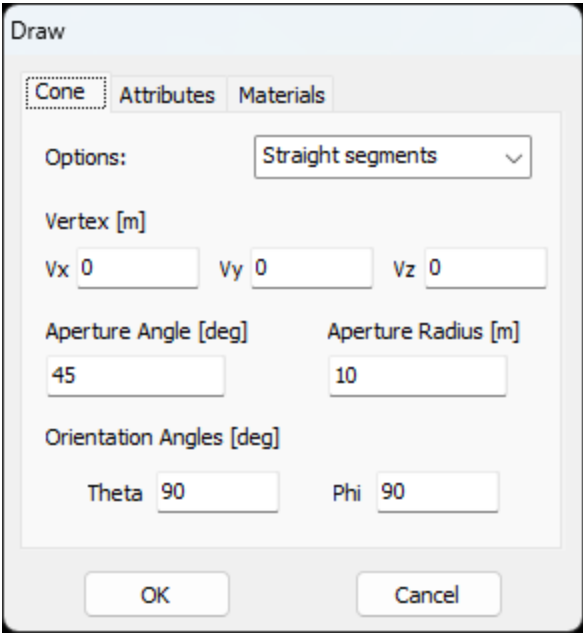

Fig. 1: Cone tab in the Draw dialog box for the Cone.
- **Base Point Coordinates** (Px, Py, Pz): The center of the bottom circular face (**Figs. 1 and 2**).